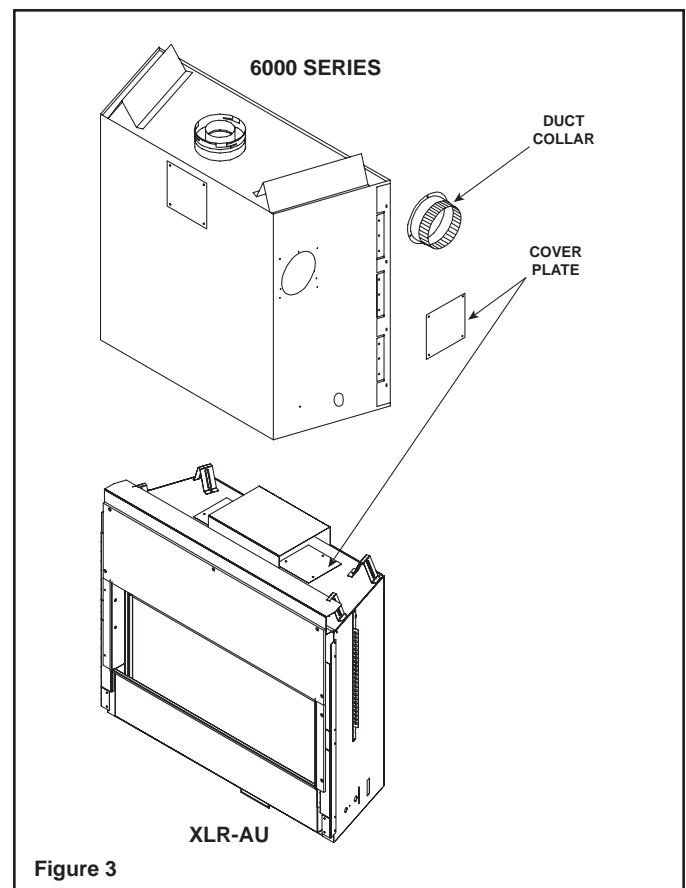

Figure 3
2. Center the duct collar around the exposed hole and attach it to the heater with 3 screws. **NOTE:** Do this **BEFORE** final positioning of the heater. See Figure 3.